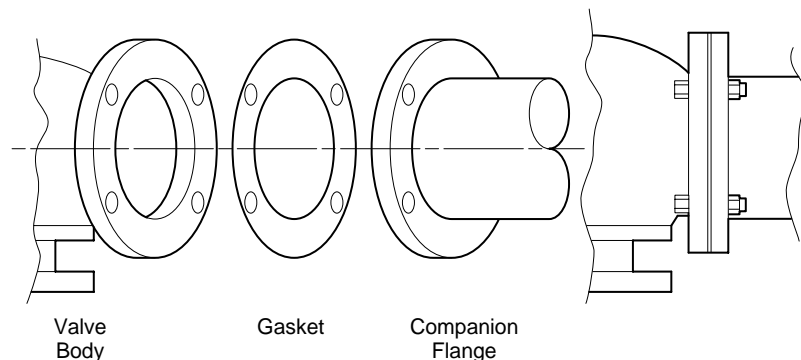

Figure-5 Installation of Flanged End Valves.
4. See Figure-5 for flange and flange bolt details. Figure-5 also shows the proper way a flanged valve should be mounted.